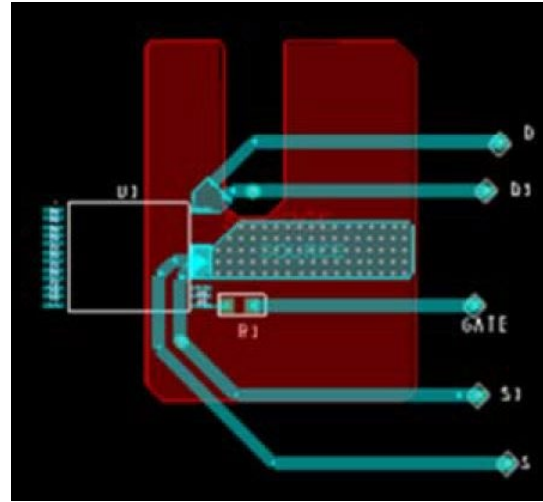

Figure 24. Thermal Resistance Test Conditions for PowiGaN Devices (INN3678C, INN3679C and INN3670C).
Testing performed on custom thermal test PCB as shown in Figure 24. The test board consists of 2 layers of 2 oz. Cu with the InSOP package mounted to the top surface and connected to a bottom layer Cu heat sinking area of 550 mm².
- Please see Figure 24.